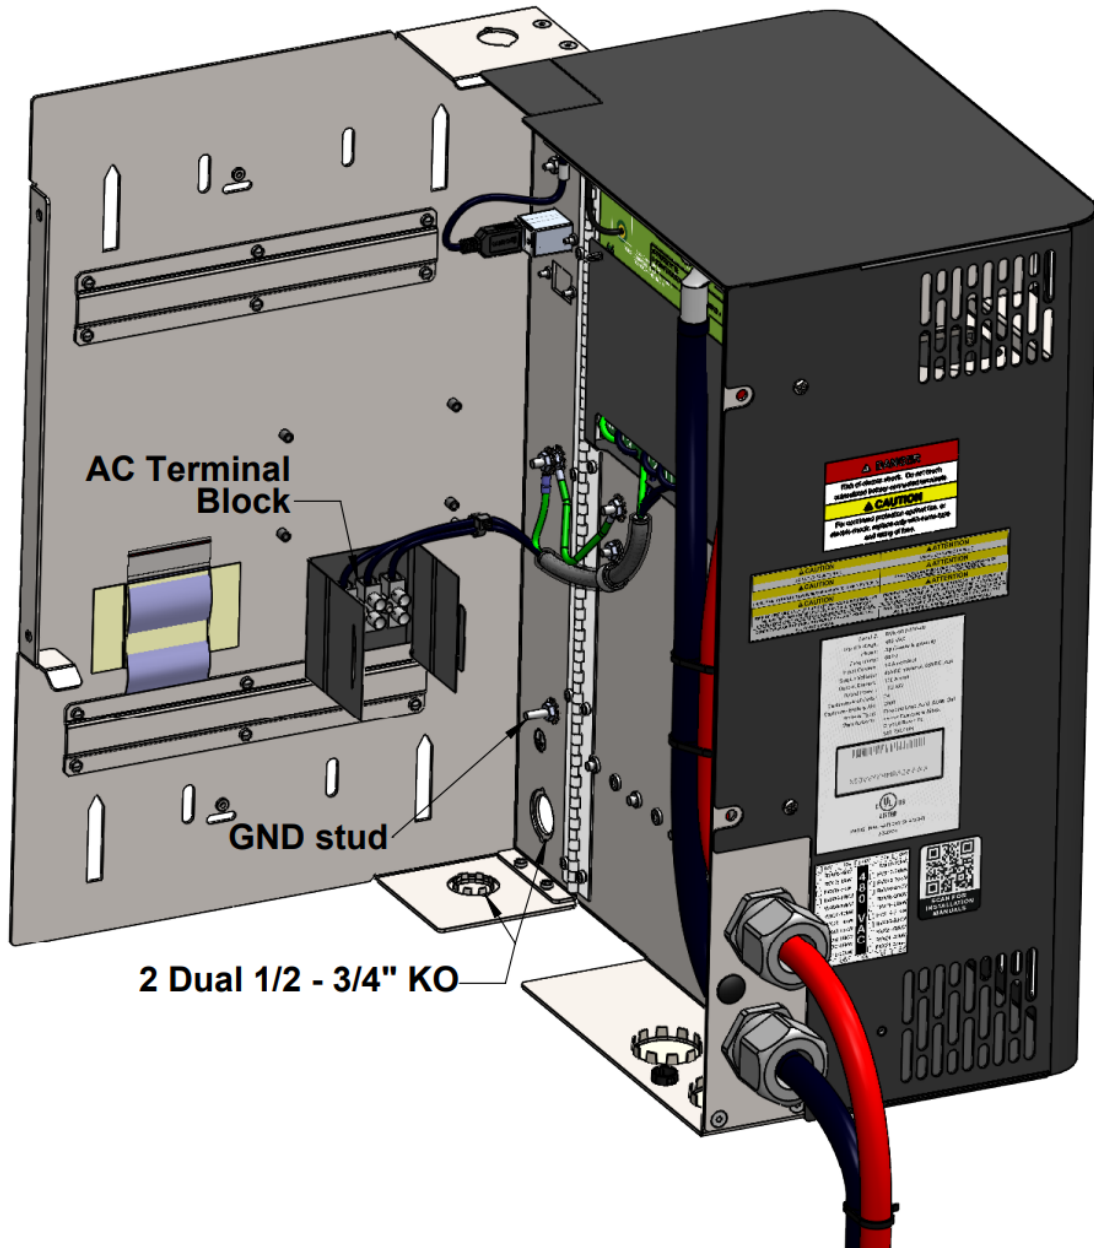

Figure 26: RVX05 KO locations
- Determine whether the 1/2" or 3/4" conduit hole will be utilized (3/4" or 1" on RVX12), if the larger KO is desired, punch out the outer ring from the knockout (KO) provided (Figures 26, 27):